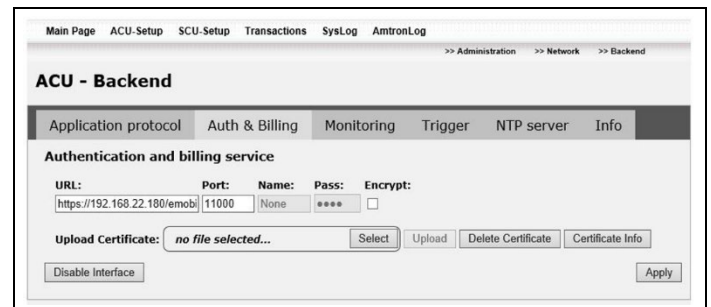

Fig. 6: Disabling the Auth & Billing interface
2. If necessary, deactivate the interface for authorization by clicking the button "Disable Interface" (see Fig. 6).